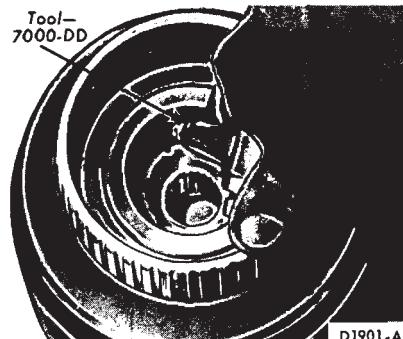

FIG. 84—Removing Forward Clutch Piston
4. Apply air pressure at the clutch piston pressure hole (Fig. 84) to remove the piston from the clutch hub.